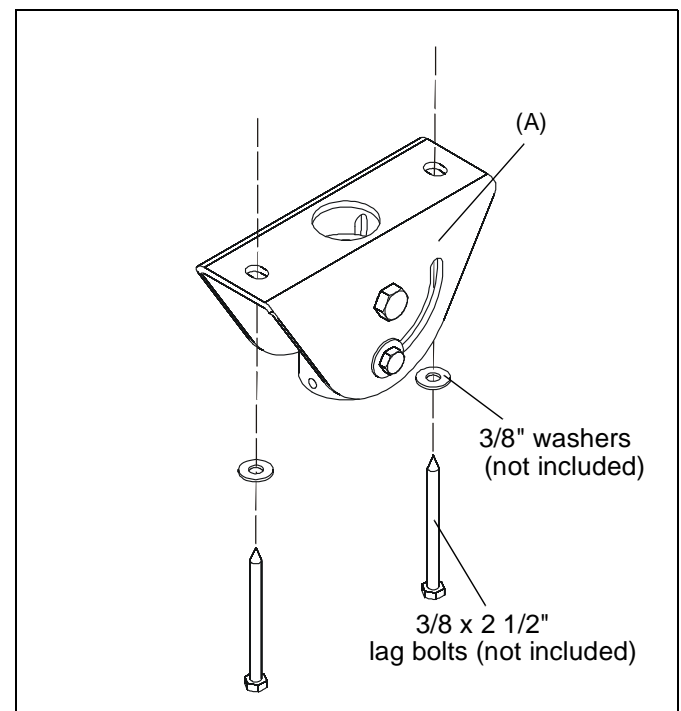

Figure 3
9. Install CMA395 (A) to ceiling using two 3/8 x 2 1/2" lag bolts (not included) and two 3/8" washers (not included). (See Figure 3)